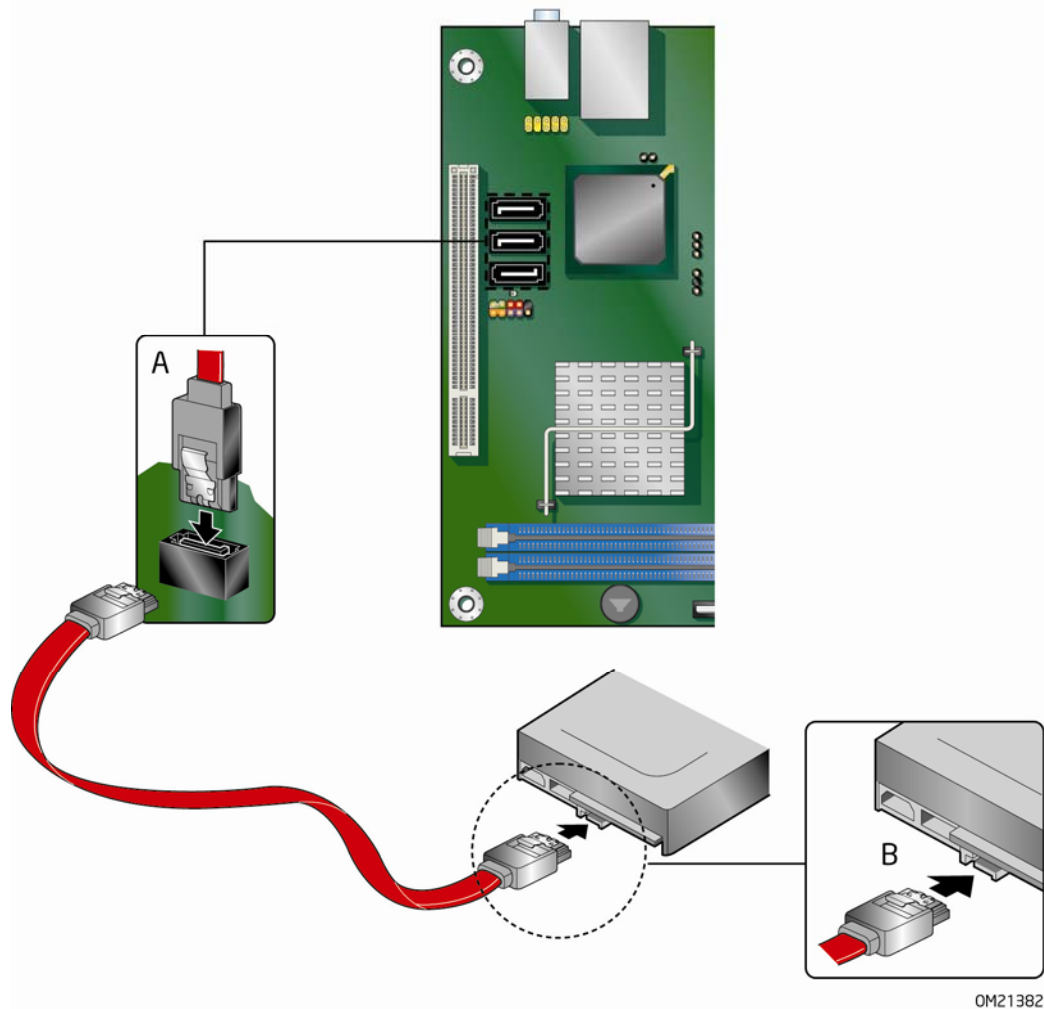

Figure 16. Using the Standard SATA Cable
2. Attach one end of the SATA data cable to one of the SATA connectors on the board (Figure 16, A) and attach the other end of the cable to the SATA drive (Figure 16, B).